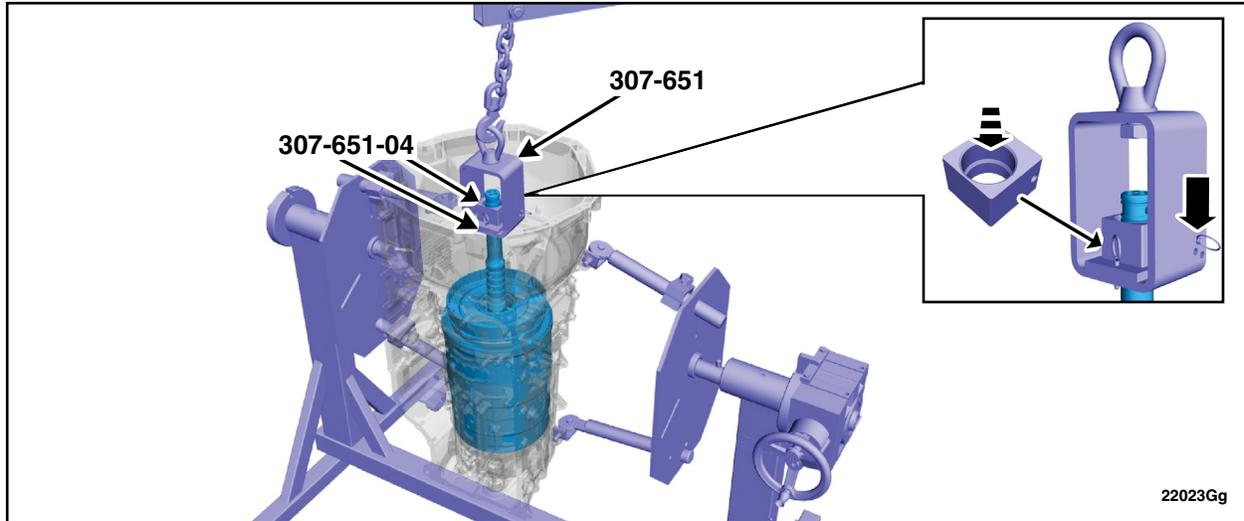

FIGURE 43
49. Using the Special Service Tool: 307-651 Bracket, Pump Remover/Installer. , 307-651-04 Adapter, Lift Fixture and a floor crane, install the clutch and planetary assembly. See Figure 43.